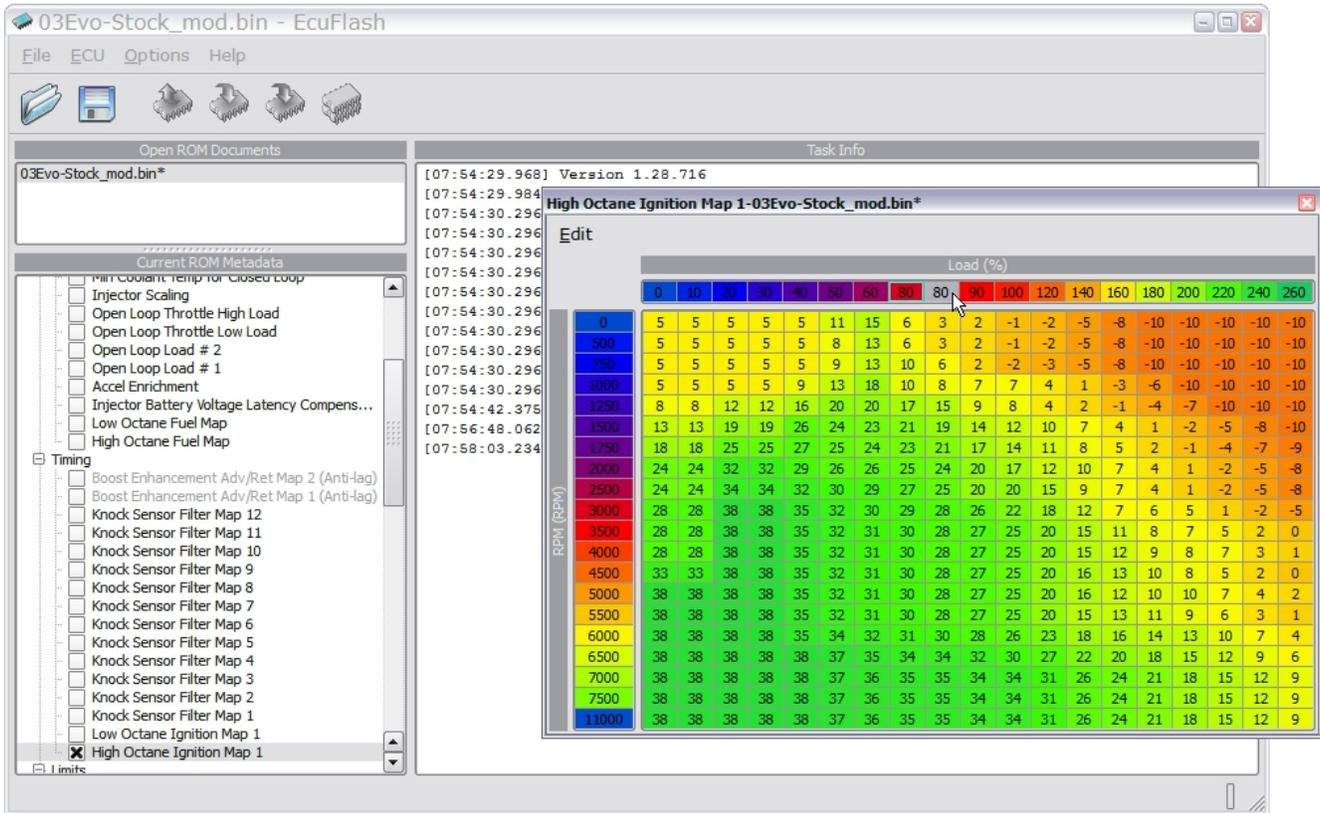

Figure 7, modified 2003 Evolution VIII ECU High Octane Ignition Map, select the 'second' 80 column header cell
- o Paste selected cells into the original 80% Load column header (figures 7, 8)
- Highlight the 'right' 80 (figure 7)